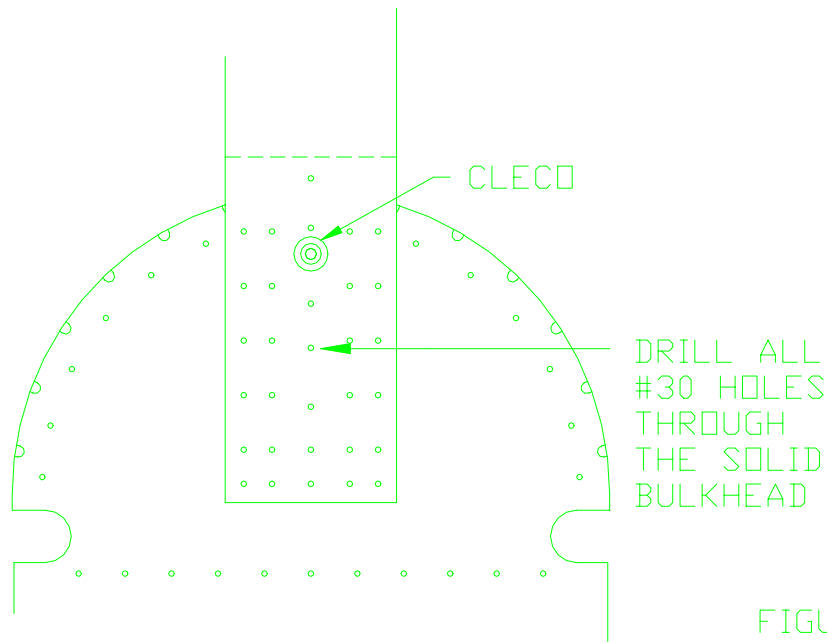

FIGURE 17
73) Cleco the fin assembly to the FUS-343 bulkhead using the #11 tooling hole in the bulkhead. Figure 17.